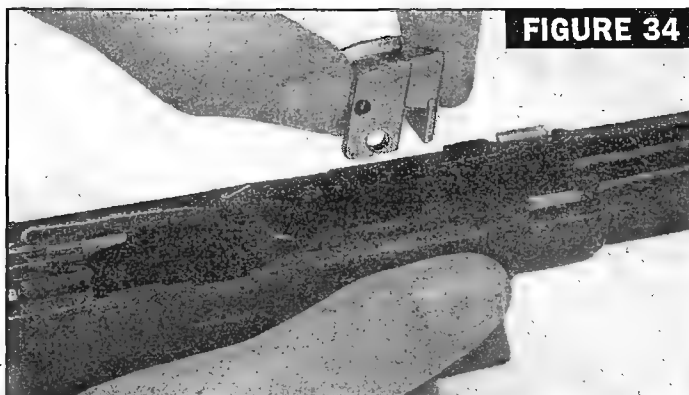

FIGURE 34
- Pry up from left side to prevent damage to trigger bar. Remove the locking block by hand (Fig. 34).